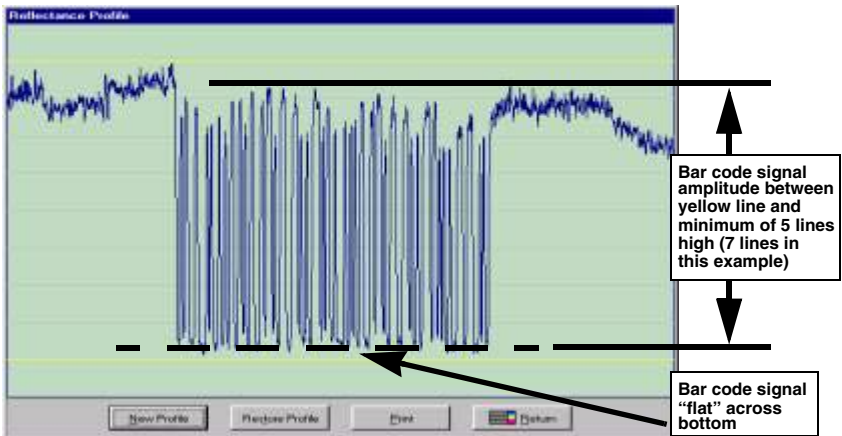

Figure 2 - Example of "Good" Scan Profile
8. Confirm the signal levels are between the yellow lines and flat on the bottom as shown in "Figure 2 - Example of "Good" Scan Profile" on page A-4. If correct, go to step 10.
12. Confirm the signal levels are between the yellow lines, amplitude is 5 lines high minimum and flat on the bottom as shown in "Figure 2 - Example of "Good" Scan Profile" on page A-4. If correct, the scanner is set up for the material in the application. Go to Step 13.